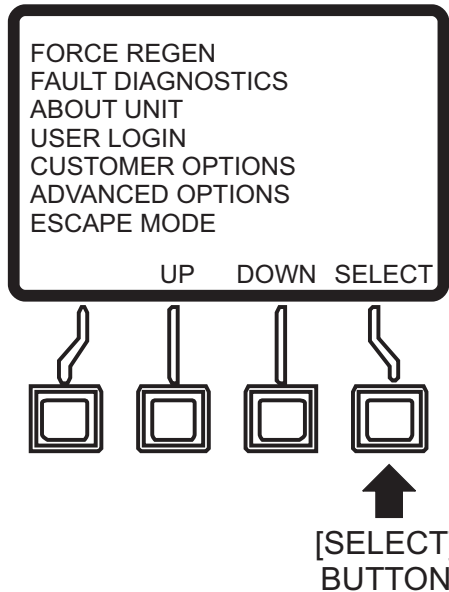

Figure 96. Escape Mode (Select Button)
5. Press the **[SELECT]** button (Figure 96) to enter the "Escape Mode" menu.